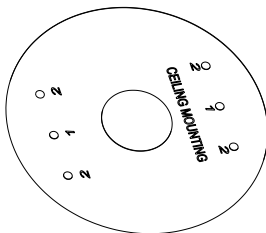

Figure 2-1 The Drill Template
2. Drill four screws holes according to the number 2 circles on the drill template as shown in Figure 2-1.